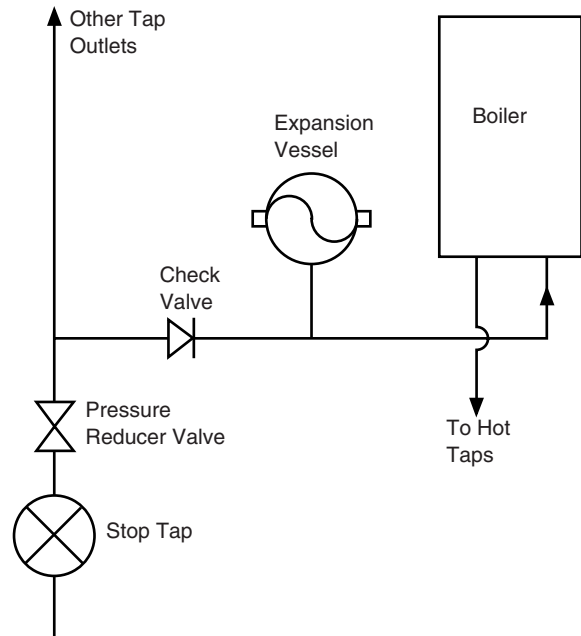

Fig. 8
### 6.8 Domestic Hot Water Circuit (Fig. 8)
3. A single check valve must be fitted as shown in Fig. 8 to prevent backflow to the supply pipe and to ensure the efficient operation of the expansion vessel which is required to accommodate the thermal expansion of the water.